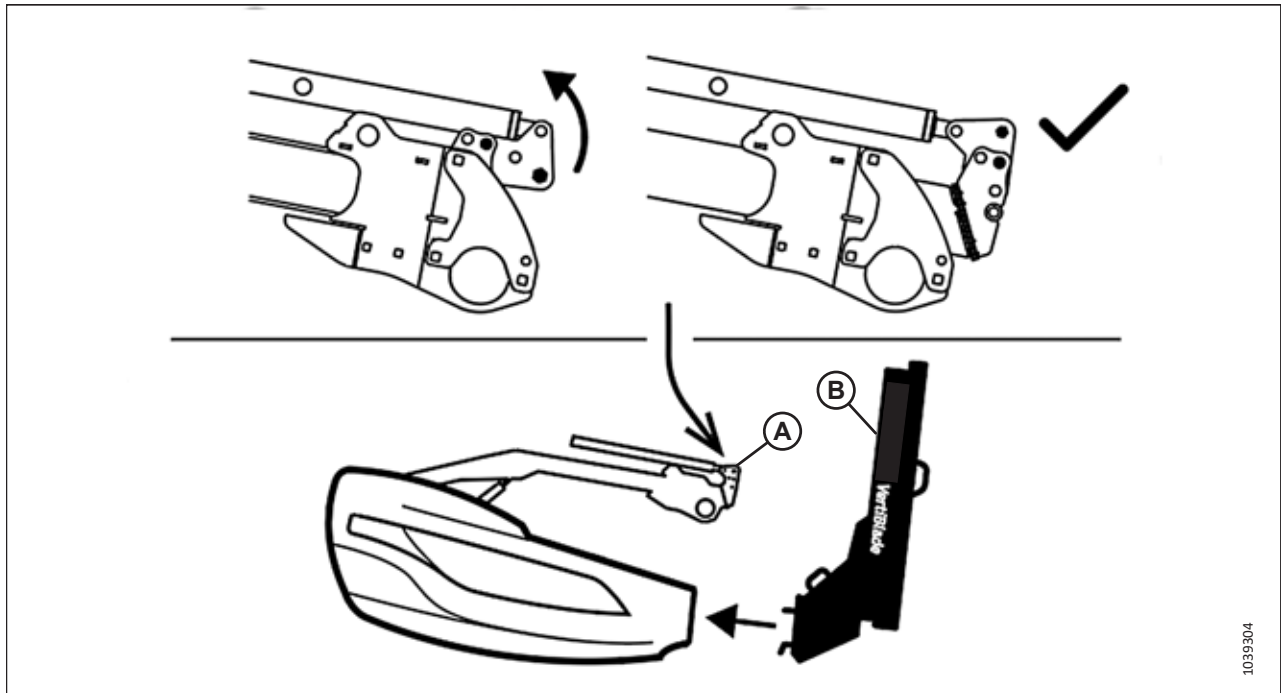

Figure 4.362: Reel Fore/Aft Cylinder Position for Vertical Knives
To prevent contact between reel arm components (A) and vertical knife assemblies (B), retract the reel's fore-aft cylinders as shown in Figure 4.362, page 459 before installing the vertical knives. For instructions, refer to Repositioning Fore-Aft Cylinders, page 154.